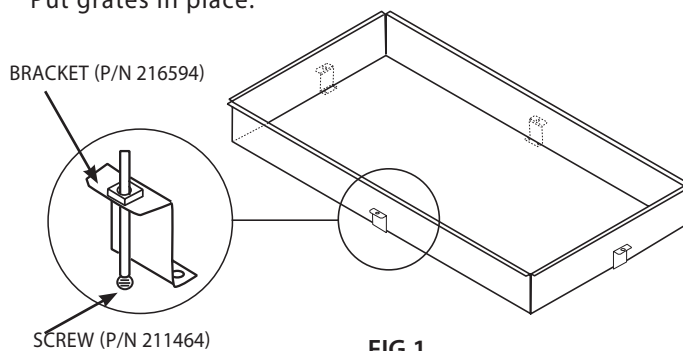

FIG.1
- Step 5: Square the cooktop to the cutout and install the (4) retaining brackets onto the 8 holes for CDV2-365 and (2) retaining brackets onto 4 holes for CDV2-304 located at the bottom of the unit (See Figure 1 below). If the retaining brackets are not installed, the cooktop will not pull down to countertop.